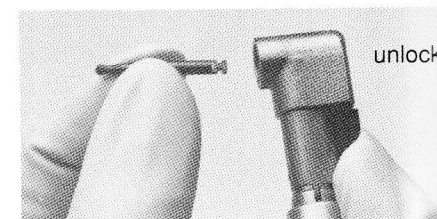

Figure 25
2. Insert any R.A. (right angle) dental bur into handpiece. See Figure 25.